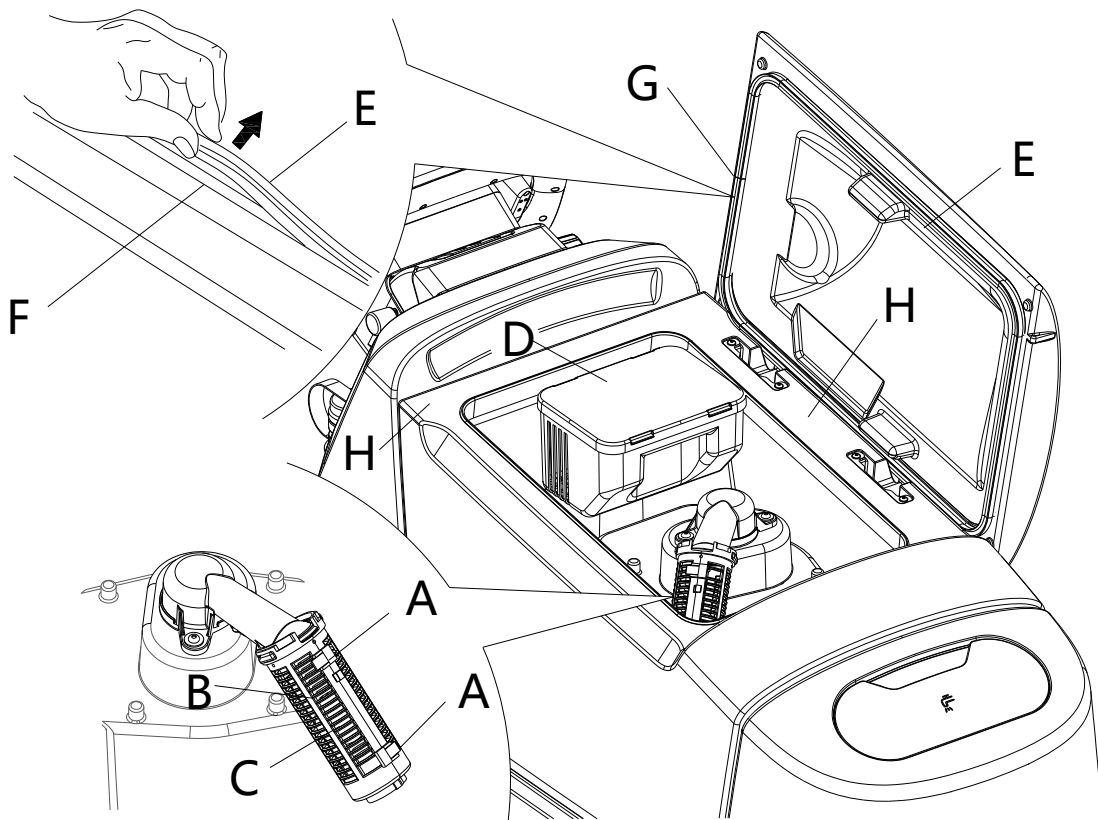

Figure 15
2. Turn off the machine with press start/stop button (62).
3. Raise the cover (2).
4. Wash the inside of the tank (3) and the cover with clean water.
5. Drain the water in the tank through the hose (18).
6. Clean the vacuum grid (30), release the fasteners (A, Fig. 15), open the grid (B) and recover the float (C) then clean it carefully and reinstall it.
7. Remove the debris collection tank (D) and open its cover, then clean it carefully and reinstall it on the vacuum hose.
8. Check the condition of the tank cover gasket (E). If necessary, replace the gasket (E) by removing it from its housing (F). When fitting the new gasket, position the joint (G) in the lower area, as shown in the figure.